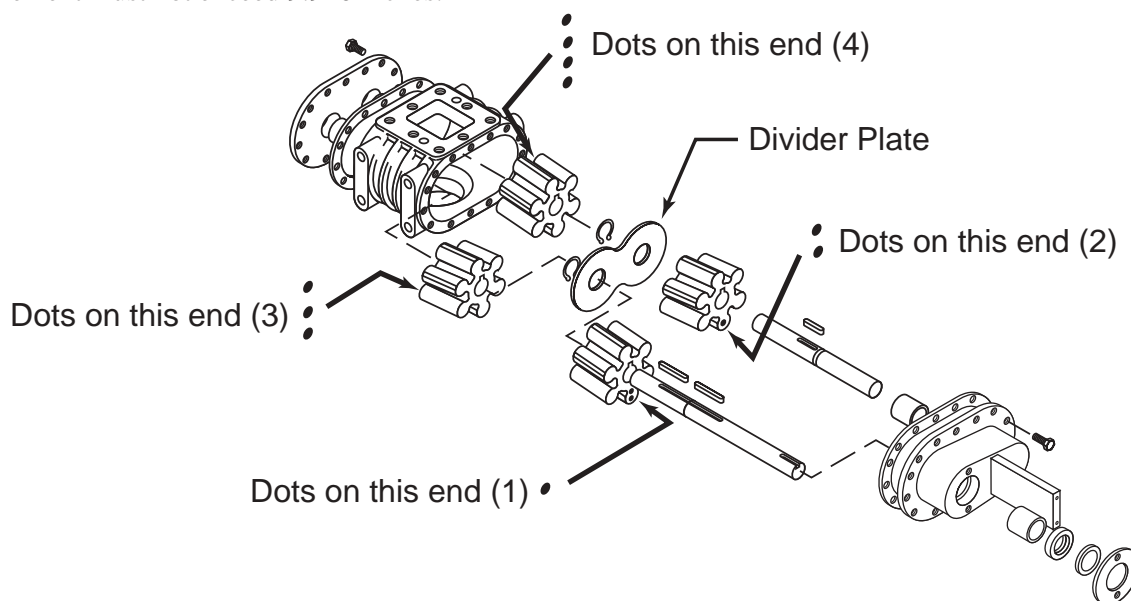

Figure 24. Etnyre Asphalt Pump
1. Remove 20 capscrews from perimeter of pump end plate (see Figure 24).
Each impeller gear set uses a series of dots on the gear faces to indicate position of the gears within the pump. Refer to Figure 24 for proper positioning of the gears. The dots must face away from the divider plate (towards the ends of the pump). Install the impellers in numerical order.